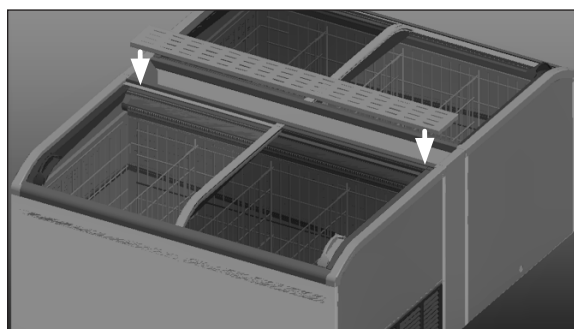

Fig. 10 Placing cover plate
7. Place the cover plate at the middle of the two cases, as shown here (Fig. 10). Hardware is not required for this step. **Note: Do not merchandise on top of the cover plate as this will restrict the air exhaust.**